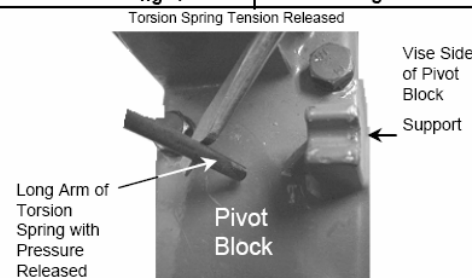

fig 3
3. Lift torsion spring coil off pivot block support and slowly release pressure from long arm of torsion spring. Fig 3 illustrates spring in released position.